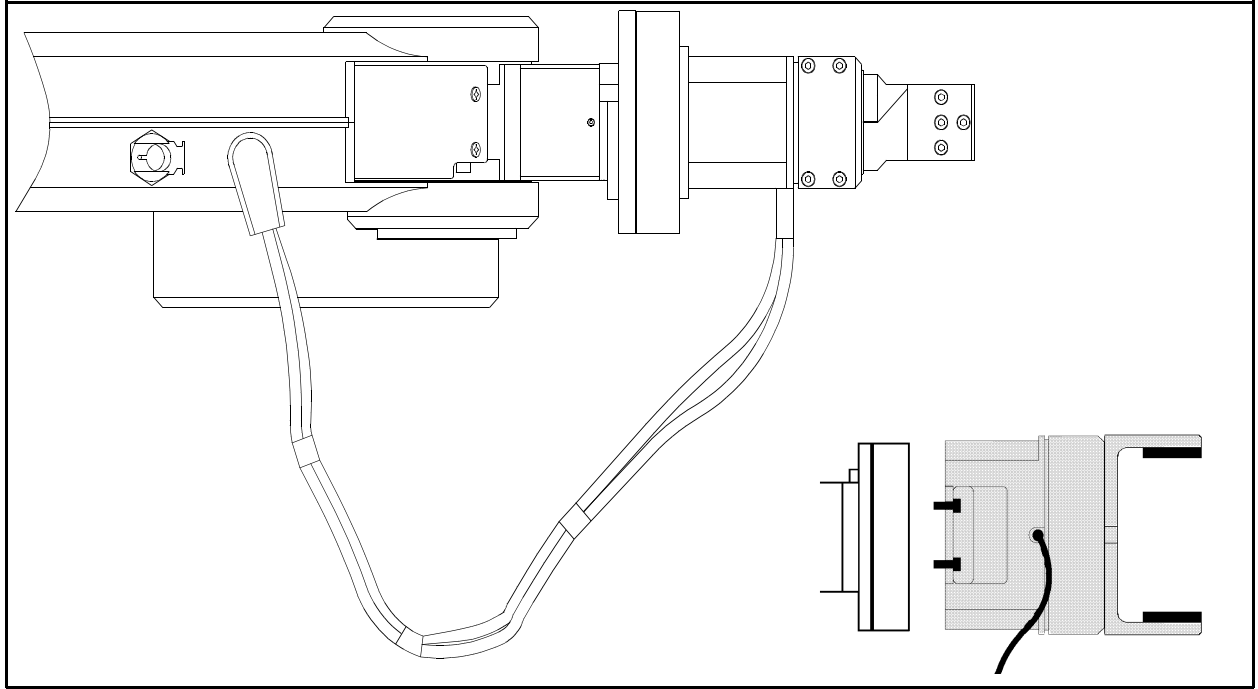

Figure 3: Attaching Gripper to SCORBOT-ER IX
5. Using four M4x10 socket screws and a 3mm Allen key (hex wrench), attach the gripper to the gripper mounting flange at the end of the robot arm, as shown in the inset in Figure 3.
6. Connect the gripper cable to the electrical connector on the robot arm. Make sure the connector is oriented as shown in Figure 3.